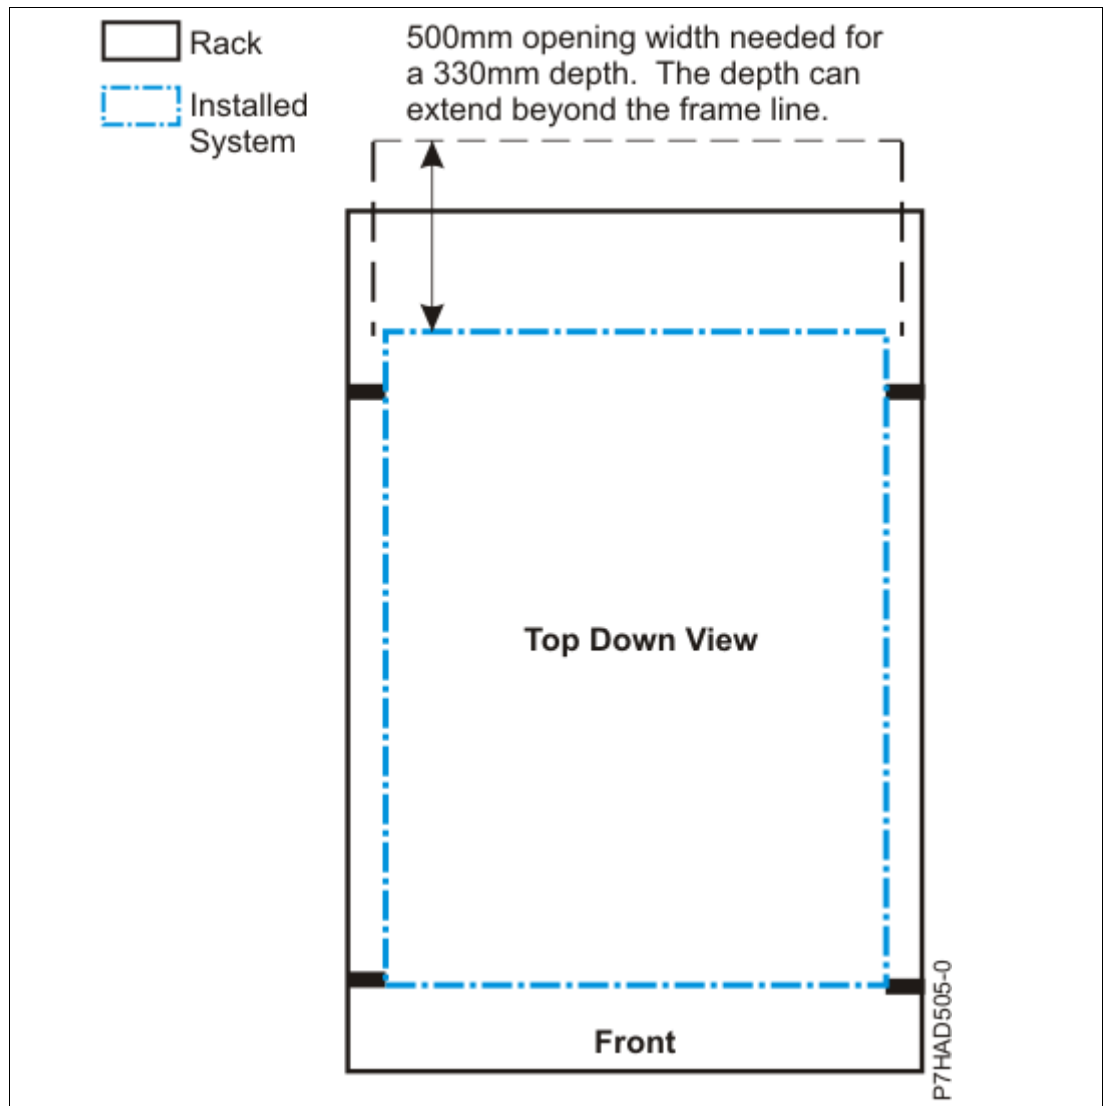

Figure 3-18 OEM rack opening depth
- A minimum rack opening width of 500 mm (19.69 in.) for a depth of 330 mm (12.99 in.) is needed behind the installed system for maintenance, service, and cable management. The recommended depth is at least 254 mm (10 in.) within the rack from the rear rack mount flange to the frame line, as shown in Figure 3-18.